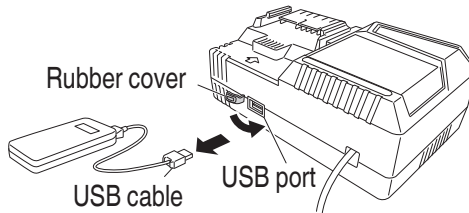

Fig. 38
- (3) When charging is completed
- Unplug the power cord from the electrical outlet. (**Fig. 38**)